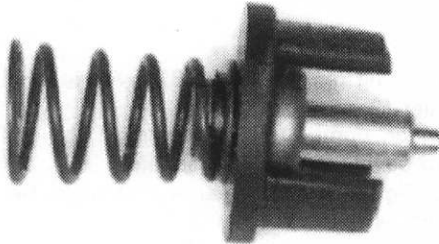

Figure 79
4. Test the thermostat (Figure 79) as follows:
- 5. Inspect the spring and thermostat holder (Figure 79) for damage.